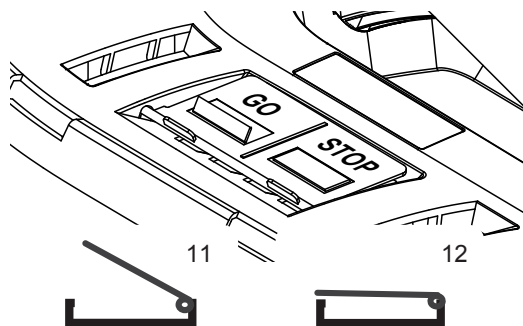

Fig. 5
2. When the grass collector reaches its maximum capacity, the grass indicator flap will remain closed (I2) (due to the restricted air flow). This signals that it is time to empty the bag (Fig. 5).